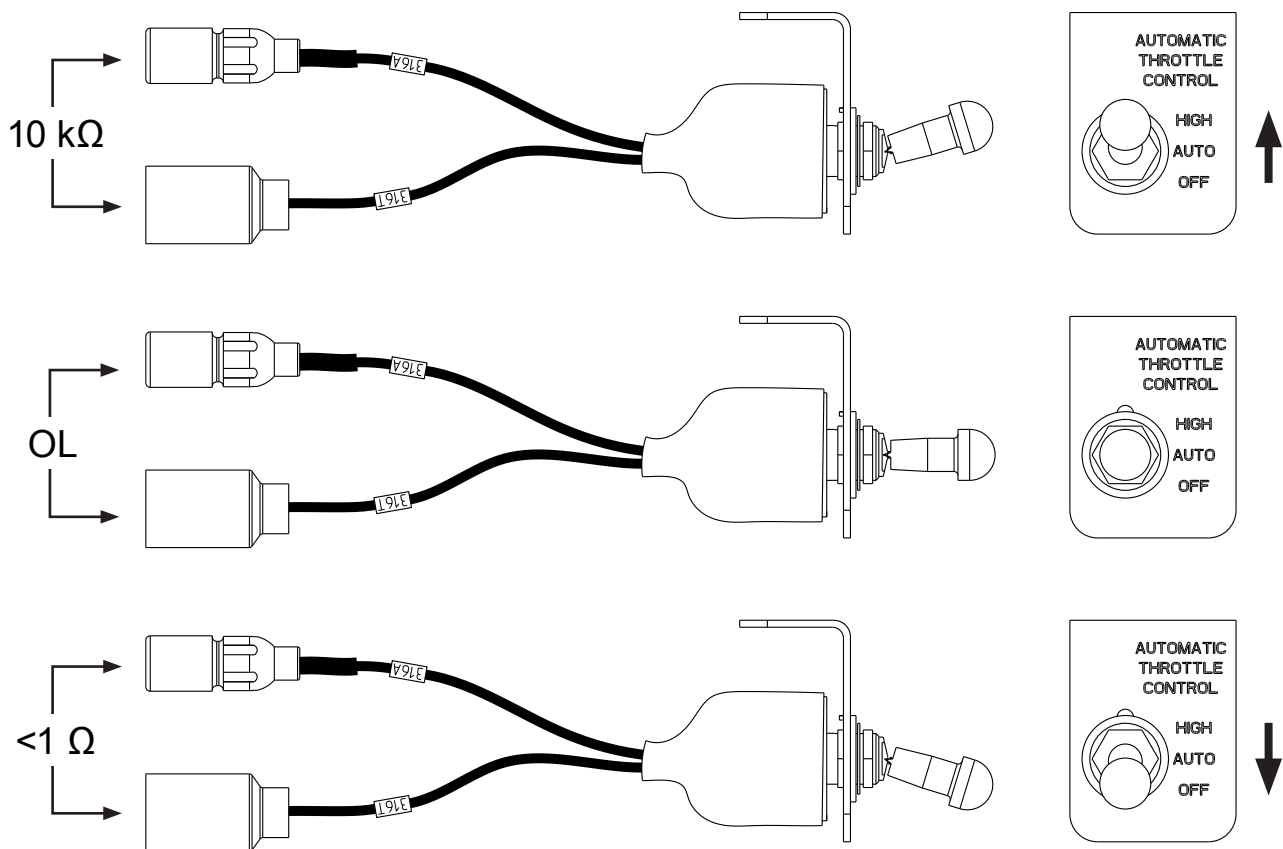

Figure 2: N7474 Switch Positions
2. Set DMM to ohms scale and measure resistance in all three switch positions as shown in Figure 2 below. If one or more of the following tests are out of specification, switch is faulty and should be replaced: